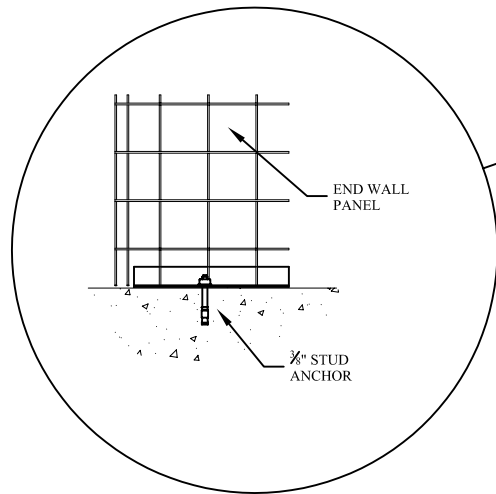

Fig. 2
2. End Wall Panel (A) mounts to floor per Fig.2 using two $\frac{3}{8}$ " stud anchors provided.
2. Side Wall Panel (C) mounts to floor per page 4, Fig. 2 using two $\frac{3}{8}$ " stud anchors provided.